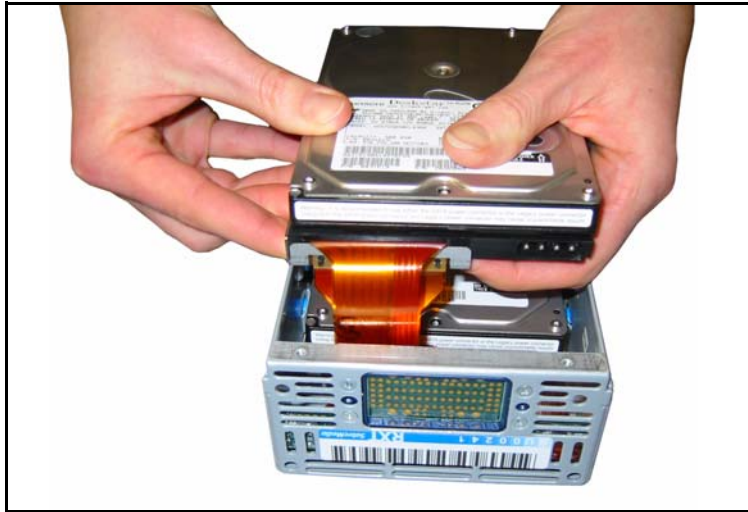

Figure 3-13 Replacing the bracket on the connector.
2. Carefully replace the bracket that secures the connector to the disk drive, sliding it first up the cable, then into place. It must sit flush against the disk drive (Figure 3-13).